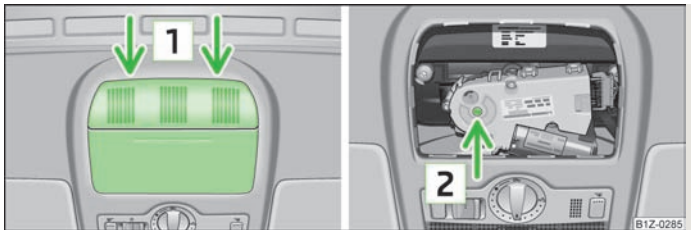

Fig. 21 Detail of the headliner/key-operated positioning point
The sliding/tilting roof can be closed or opened manually if the system is faulty. The emergency operation of the sliding roof is located underneath the glasses storage box [1] » Fig. 21.
- › Open the glasses storage box » Fig. 21.